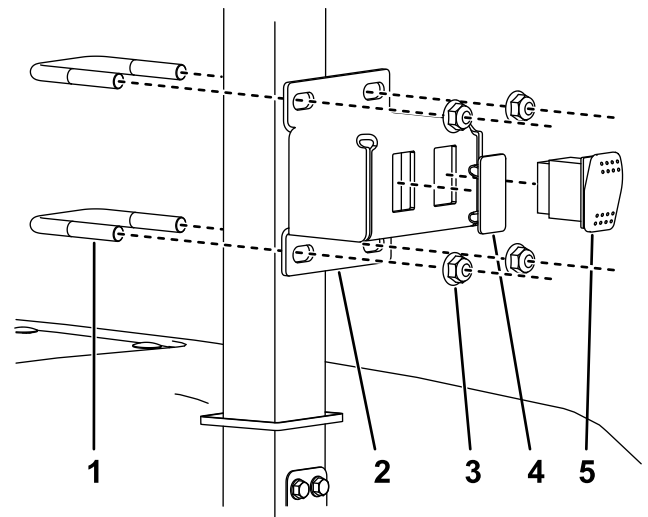

Figure 3
3. Install the switch and the hole plug to the switch bracket as shown in Figure 3.
4. Install the switch assembly to the front of the ROPS using 2 U-bolts and 2 locknuts (3/8 inch) as shown in Figure 3.